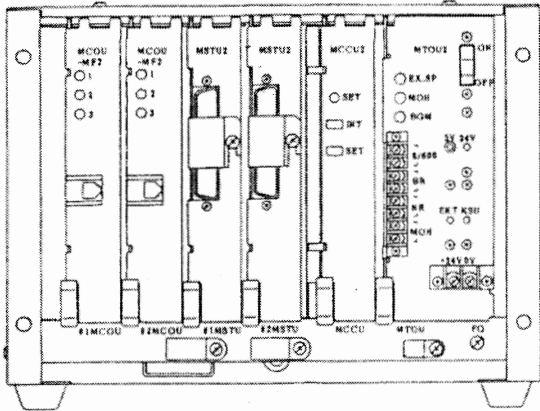

FIGURE 7
03.02 The MKSU arrangement illustrated in Figure 7 (page 7) shows the location of the various PCBs. All PCBs slide in from the front of the cabinet, and, although the rear panel of the MKSU is removable, rear access is usually not required.